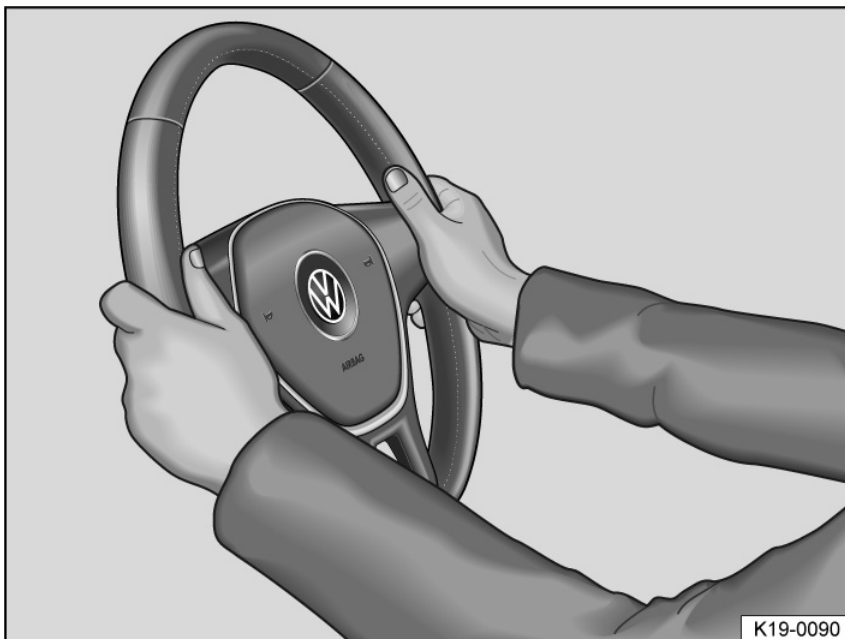

Fig. 70 On the steering wheel: nine o'clock and three o'clock position.
- Adjust the steering wheel so that it can be firmly held at the outer edge with both hands at the *nine o'clock and three o'clock position* fig. 70.
and three o'clock position fig. 70.